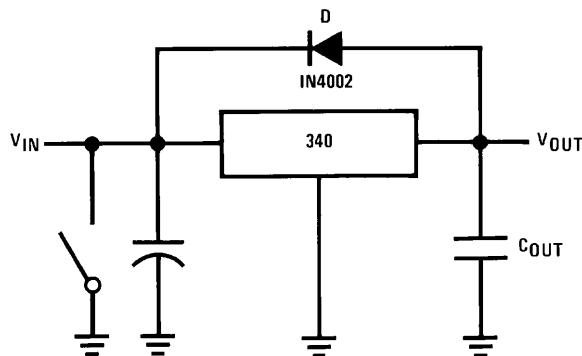

FIGURE 1. Input Short
**Shorting the Regulator Input:** When using large capacitors at the output of these regulators, a protection diode connected input to output (*Figure 1*) may be required if the input is shorted to ground. Without the protection diode, an input
short will cause the input to rapidly approach ground potential, while the output remains near the initial  $V_{OUT}$  because of the stored charge in the large output capacitor. The capacitor will then discharge through a large internal input to output diode and parasitic transistors. If the energy released by the capacitor is large enough, this diode, low current metal and the regulator will be destroyed. The fast diode in *Figure 1* will shunt most of the capacitor's discharge current around the regulator. Generally no protection diode is required for values of output capacitance  $\leq 10 \mu F$ .